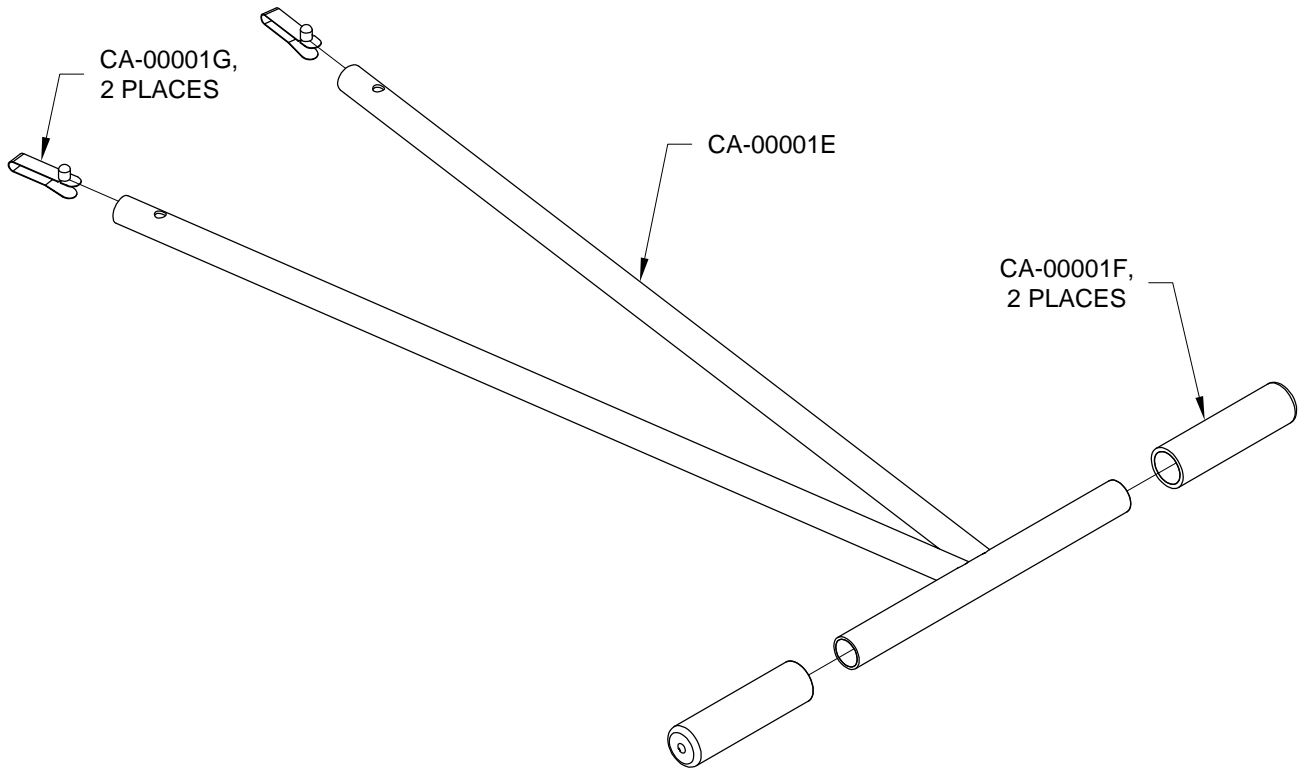

FIGURE 2: INSTALL GRIPS & QUICK RELEASE BUTTONS
Step 2: Install the CA-00001F Rubber Hand Grips onto the CA-00001E Inner Extension Arms & Handle as shown in Figure 2.
Step 3: Insert the CA-00001G Quick Release Buttons into the CA-00001E Inner Extension Arms & Handle as shown in Figure 2. Insert the quick release buttons such that the "button" portions protrude out of the holes in the inner extension arms & handle. This assembly will subsequently be referred to as the Towbar Handle.